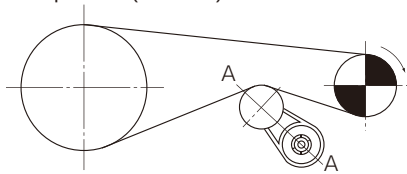

Fig. 2 Tensioner position (front)
- 2) In order to attach the tensioner to the slack side of the roller chain as shown in Fig. 2, first push in on the roller chain with the idler sprocket and determine the attachment position (bolt hole) for the tensioner.